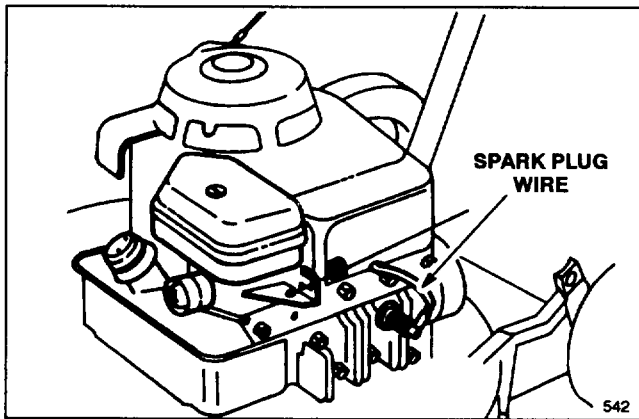

Figure 12
1. Stop engine and pull wire off spark plug (Fig. 12).